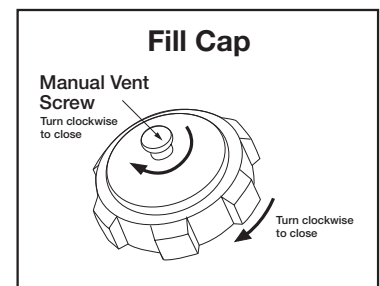

Figure 4
- b. Replace fill cap and tighten in the clockwise direction as securely as possible by hand, as shown in Figure 4.
- c. Tighten fill cap's manual vent screw in the clockwise direction as securely as possible by hand, as shown in Figure 4.